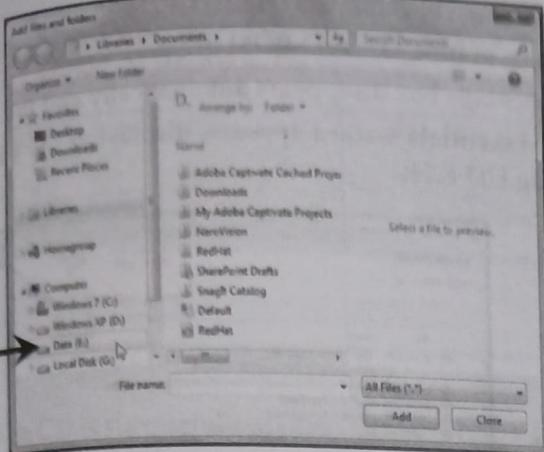
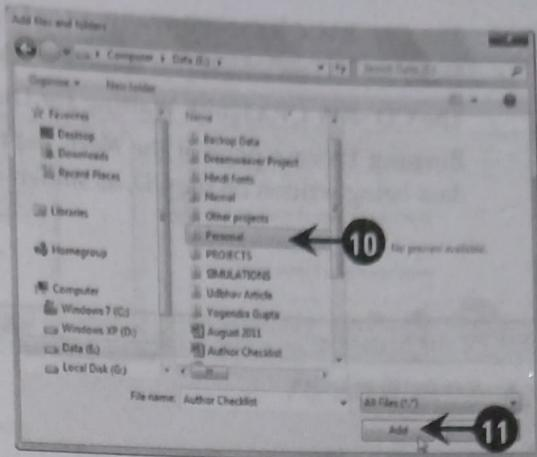

Fig.HD-8.18
Fig.HD-8.19
The **Add files and folders** window appears (Fig.HD-8.18).
9. Select a drive to add files and folders in the **Add files and folders** window. In our case, we have selected the **Data (E:)** drive (Fig.HD-8.18). A list of files and folders present in the selected drive appears on the Content pane (Fig.HD-8.19).
10. Select a file or a folder from the list, which you want to add to your CD. In our case, we have selected the **Personal** folder (Fig.HD-8.19).
11. Click the **Add** button in the **Add files and folders** window, as shown in Fig.HD-8.19: